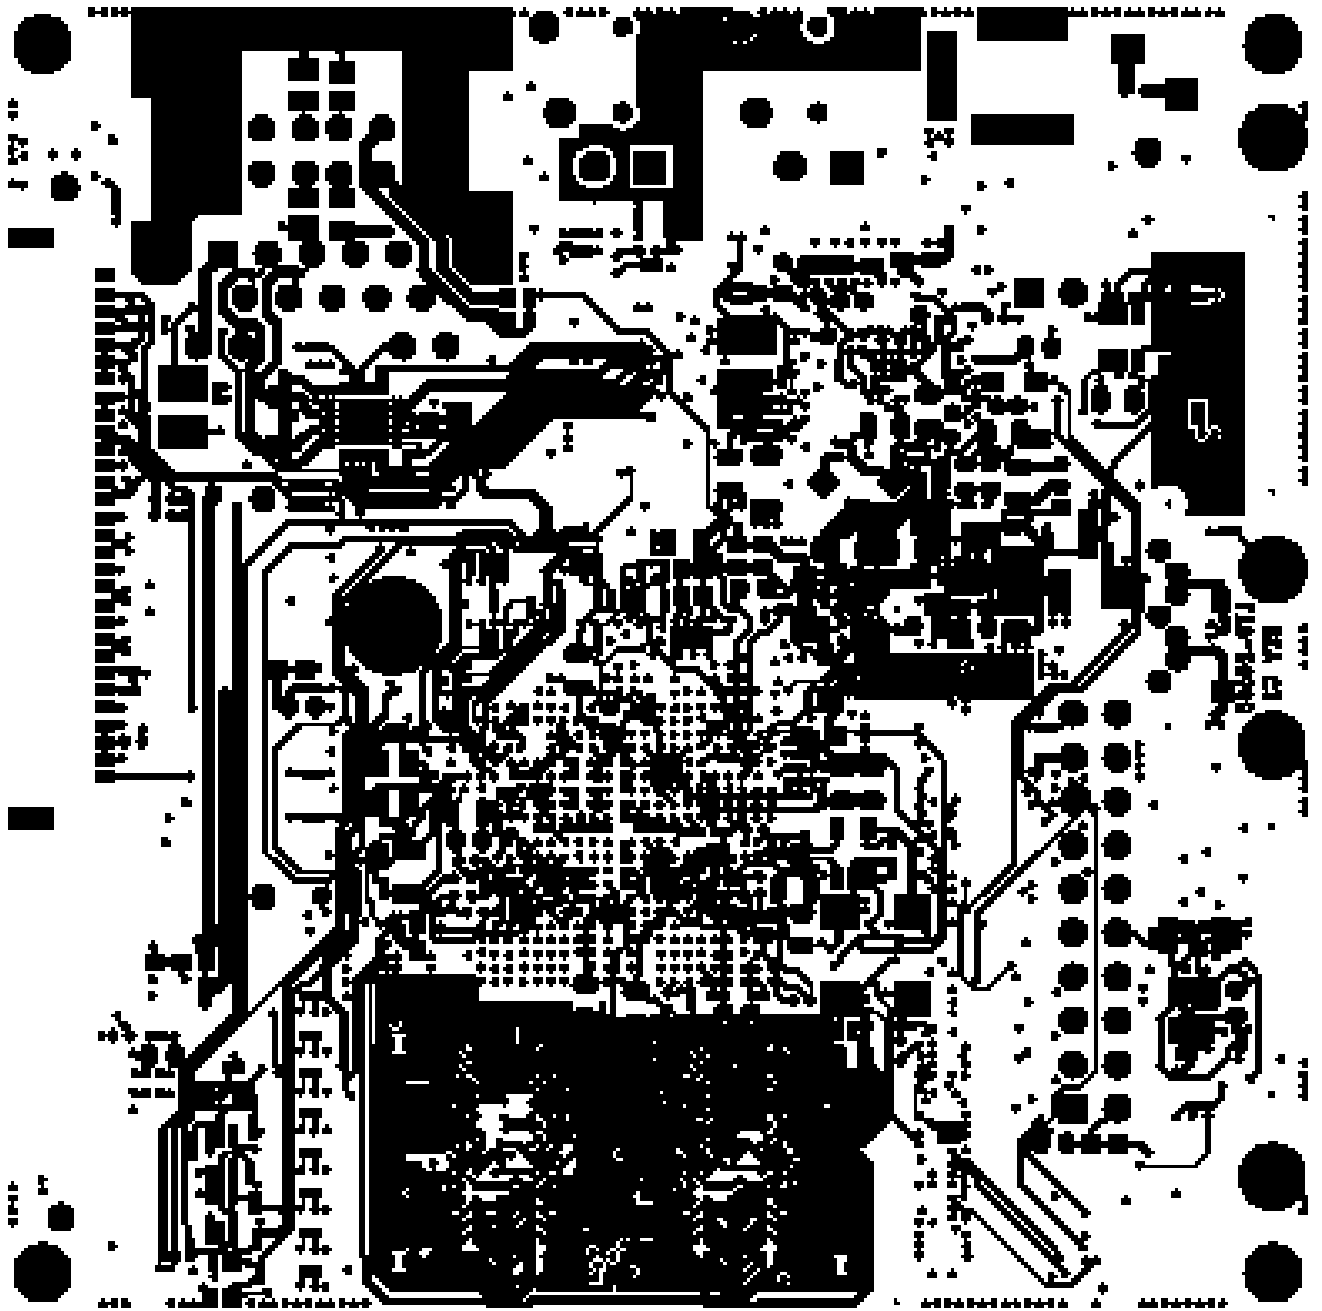

Figure 64. Bottom Etch Layer
- Figure 64. Bottom Etch Layer